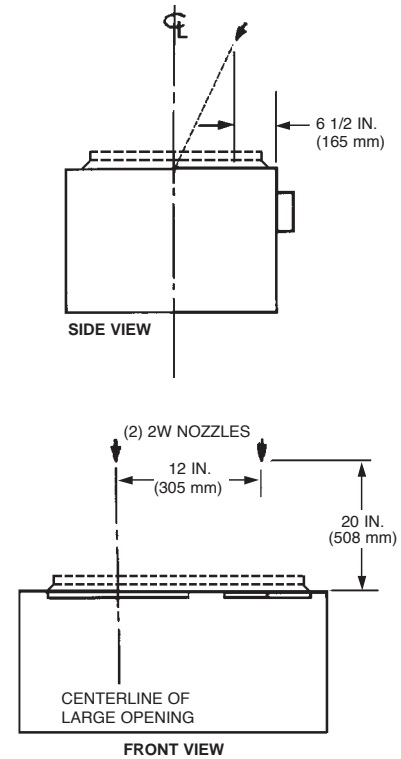

FIGURE 4-90
- **Nozzle Height:** 20 in. (508 mm) above top of appliance. See Figure 4-90.
- **Nozzle Location for Large Chamber:** 6 1/2 in. (165 mm) back from front edge of appliance. See Figure 4-90.
- **Nozzle Aiming Point for Large Chamber:** Aimed at center of opening. See Figure 4-90.